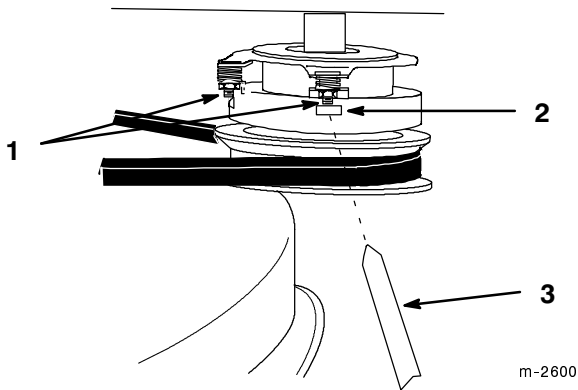

Figure 42
2. Check the adjustment by inserting a feeler gauge through slots next to each of the studs (Fig. 42) to ensure that the plates are parallel.
3. To adjust the clutch, tighten or loosen the locknuts on the flange studs as necessary (Fig. 42).